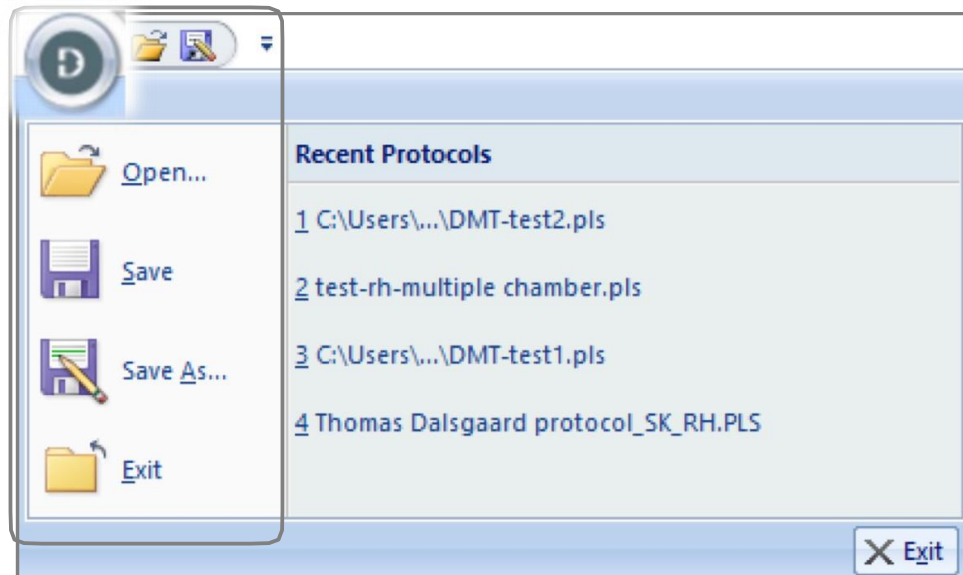

Figure 4.2.1
1. By Clicking on 'D' and selecting 'Save as' (figure 4.2.1), e.g. 'Protocol 1' the protocols loaded/created for all channels will be saved into a single file where the protocols for each channel can be identical or completely different (figure 4.2.2). Then, by selecting 'Open' an existing saved stimulation protocol file for all channels can be loaded.